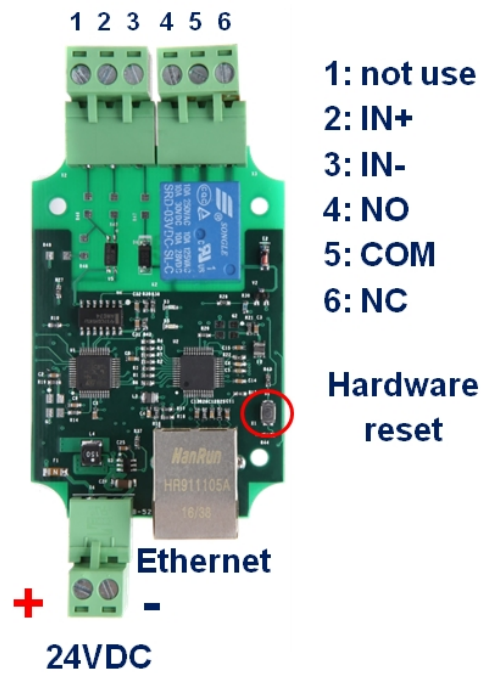

Fig. 1.1
Power both modules of BE-M401 on, with 5 - 24VDC power supply. (see **fig.1.1 at page 2**)
1. Connect BE-M401 A1 and A2 with your routers via a standard Ethernet cable. And then power it on with 5 - 24VDC power supply.(see **fig.1.1 at page 2**)
1. Connect BE-M401 with your routers or computer by Ethernet cable, and then power it on with 5 - 24VDC power supply.(see **fig.1.1** at page 2)